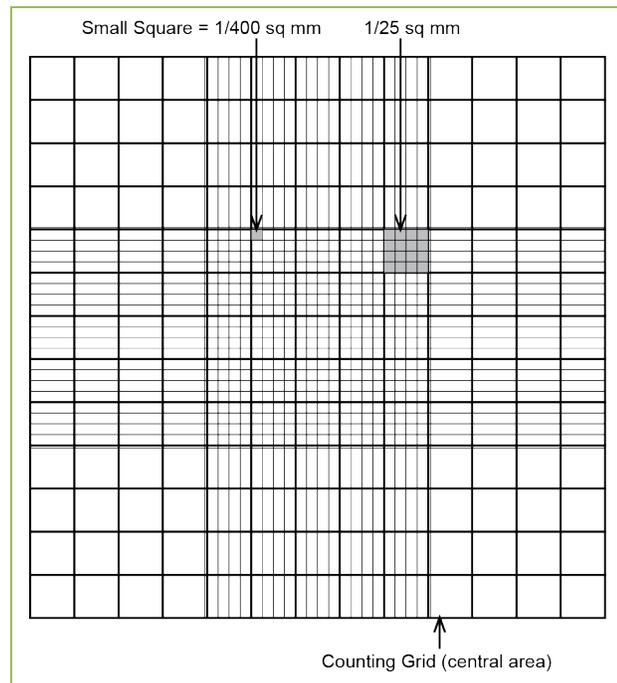

Figure 5: Counting Grid
3. Count the cells in the 4 large corner squares (Figure 5) using a high power lens. Count the viable and non-viable cells separately, noting the following: